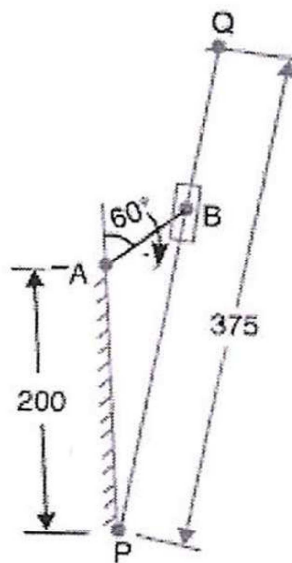

Fig. 3 (For Q. 8(b))
- (b) The driving crank AB of length 75 mm for the quick return mechanism, as shown in Fig. 3 revolves at a uniform speed of 200 rpm. Find acceleration of point Q, for the configuration shown, when the crank makes an angle of 60° with the vertical line of centers PA. [11]